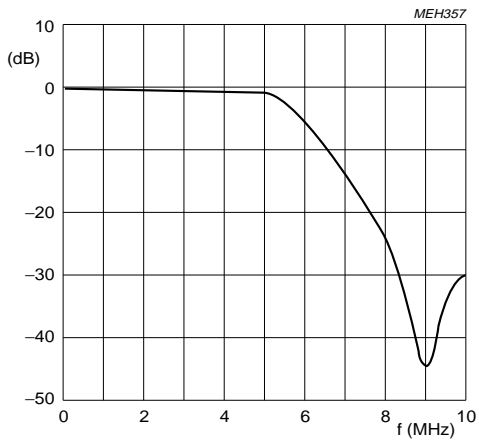

Fig.13 Characteristics of low-pass post-filters;
- (1) Without compensation of the DAC hold characteristic (see Fig.13).